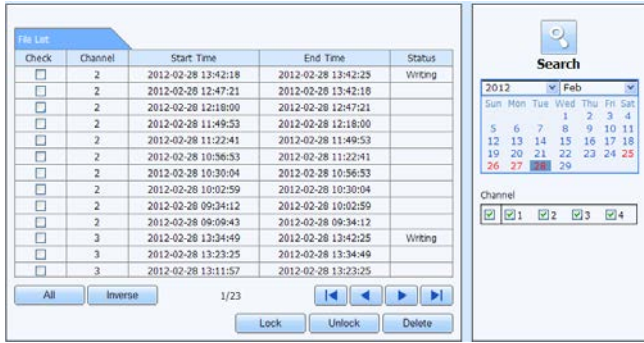

Fig 8-8 File Management Interface
Step 1: Enter into Search → File management. Refer to Fig 8-8: